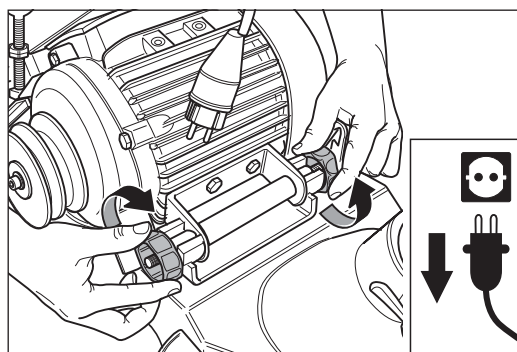

Fig. 105 Tighten the two motor nuts.
- 7 Tighten the two motor nuts (Fig. 105).